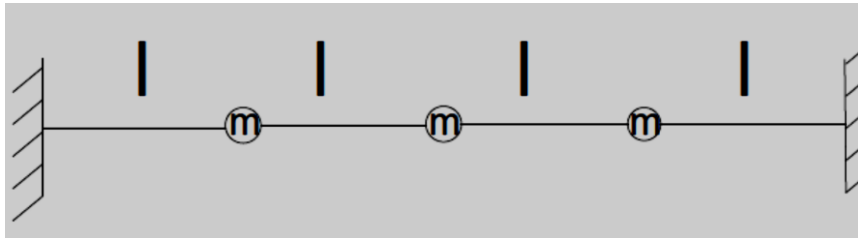

Figure.1
3. Determine the influence coefficient of the system shown in the figure.1